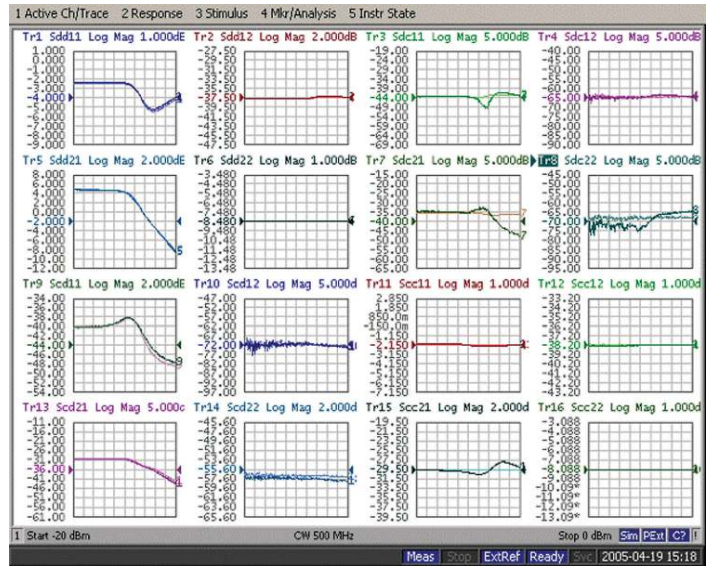

Figure 8 Comparison between mathematical mode conversion method (in thick color) and physical conversion with a hybrid junction (in thin color)
Figure 8 shows the measured results of a balanced amplifier by two techniques – (1) mathematical mode conversion with the Fixture Simulator, and (2) physical mode conversion using a hybrid junction described above.